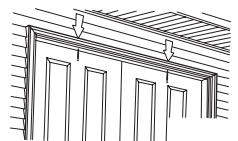

Fig. 11
11. If you have a double door unit to install or a door unit with sidelights, some additional fastening is required. Double doors should be fastened through the top of the door jamb into the door header with two 10d finish nails or two #8 x 3" drywall screws (Fig. 11).